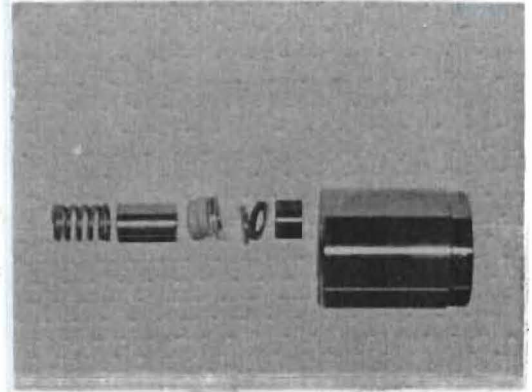

FIGURE 6-23
- A. DIP EACH ADAPTER AND SQUARE-RING PACKING INTO CLEAN OIL, THEN PUSH EACH RING INTO EACH CAVITY IN THE ORDER SHOWN IN FIGURE 6-23. (STAGGER SPLITS YELLOW/BLACK/WHITE.)